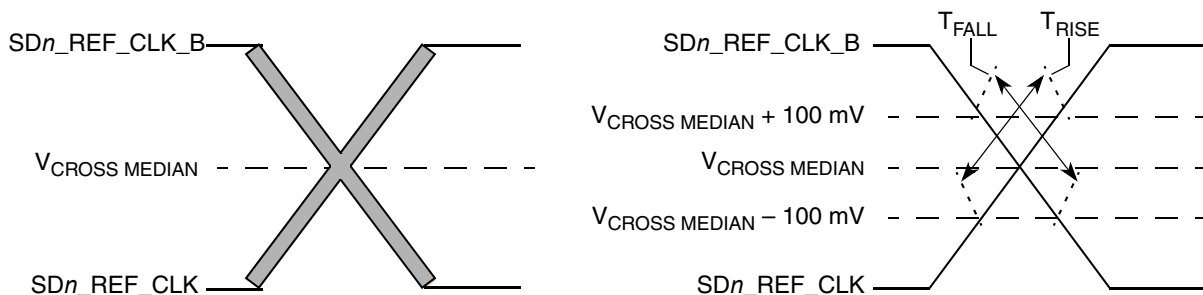

Figure 40. Single-Ended Measurement Points for Rise and Fall Time Matching
- Matching applies to rising edge for SD_REF_CLKn and falling edge rate for SD_REF_CLKn_B. It is measured using a 200 mV window centered on the median cross point where SD_REF_CLKn rising meets SD_REF_CLKn_B falling. The median cross point is used to calculate the voltage thresholds that the oscilloscope uses for the edge rate calculations. The rise edge rate of SD_REF_CLKn must be compared to the fall edge rate of SD_REF_CLKn_B, the maximum allowed difference must not exceed 20% of the slowest edge rate. See Figure 40.